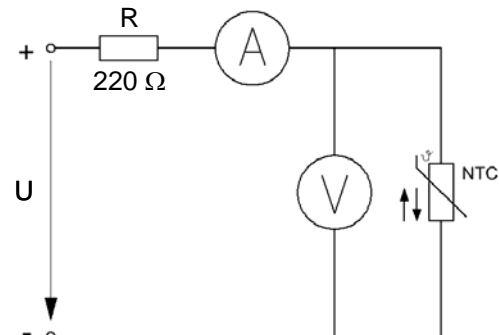

Fig. 3.3.2.1 : Characteristic recording  $I = f(U)$  and  $R = f(U)$
- Assemble the exercise circuit on the Board (Fig. 3.3.2.1).